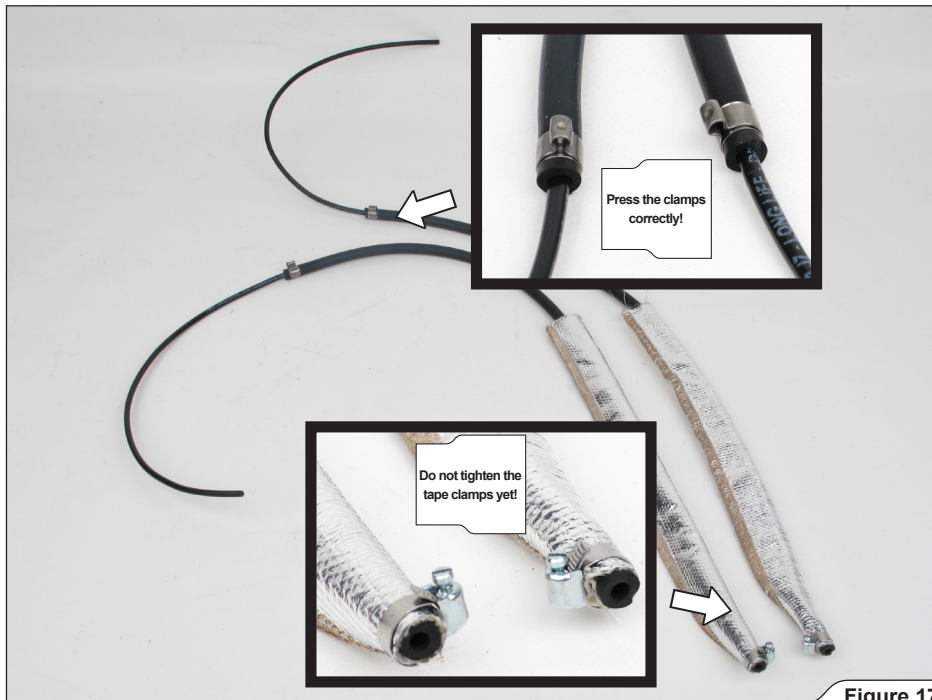

Figure 17
2. **For vehicles with non-sports original exhaust system only:** assemble the heat protection onto the rubber vacuum tubes using tape clamps; bind the other ends of the rubber tubes with pvc vacuum tubes, as shown (Figure 17).